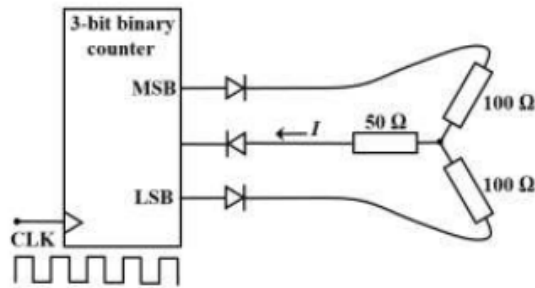

Fig. 5.6
6. For the 3-bit binary counter shown in Fig. 5.6, the output increments at every positive transition in the clock (CLK). Assume ideal diodes and the starting state of the counter as 000. If output high is 1V and output low is 0V, the current  $I$  (in mA) flowing through the  $50\Omega$  resistor during the 5th clock cycle is (up to one decimal place) (GATE IN 2018)